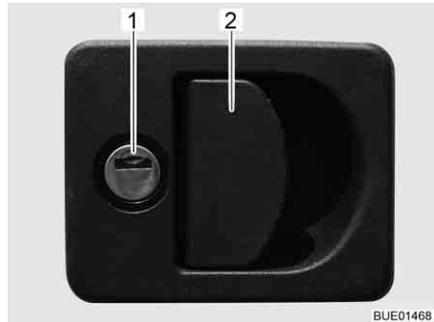

Fig. 62 Flap lock with recessed handle
- Insert key into locking cylinder (Fig. 62,1) and turn a quarter turn. The flap lock is unlatched.
- Pull on the lock handle (Fig. 62,2). The external flap is open.